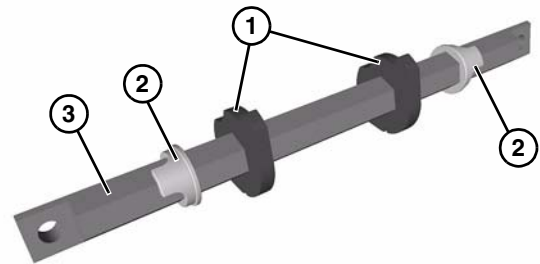

Figure 16
1. Slide stop keys (Figure 16, item 1) and tip up sleeves (Figure 16, item 2) onto hex shaft (Figure 16, item 3). The tabs on the tip up sleeves face outward and align with the slotted ends of the hex shaft as shown.